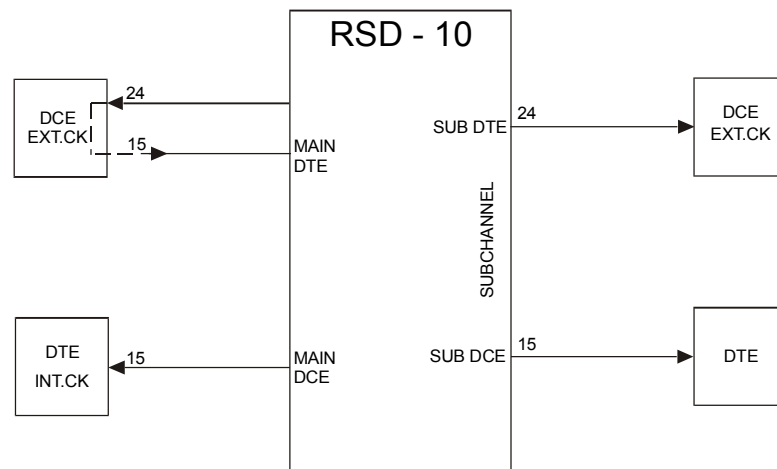

Figure 2-3. Synchronization on the Internal Clock
- Synchronizing on the RSD-10 internal clock (see *Figure 2-3*)